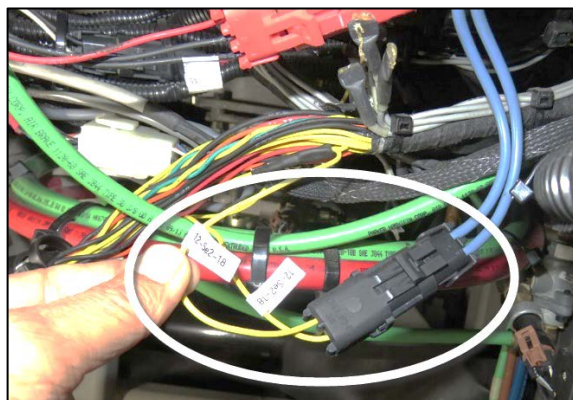

Figure 20
35. Connect female connector #561566 with the new pressure switch male connector (Figure 20).